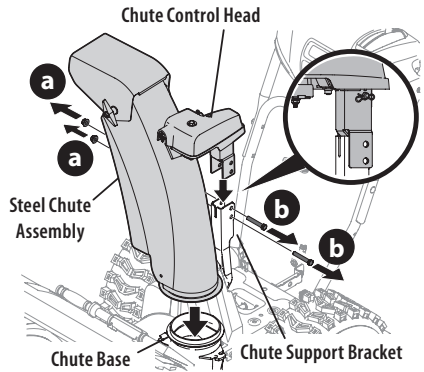

Figure 27
- Remove lock nuts (a) and hex screws (b) from chute support bracket (this will require two wrenches) (Figure 27).
- Place steel chute assembly onto chute base and chute control head onto chute support bracket (Figure 27).